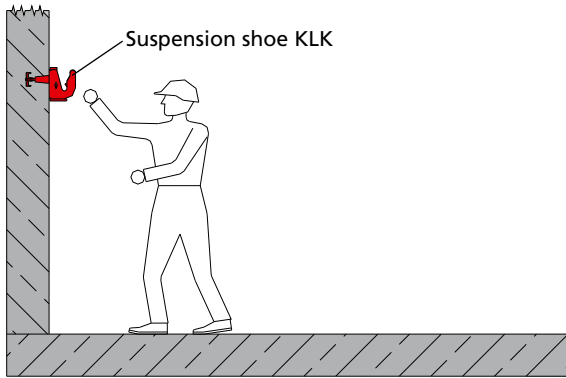

Fig. 17.1
1. Attach the suspension shoe KLK to the climbing cone by using the suspension screw M24. Secure the shoe with the integrated safety pin against unhooking (see p. KLK-16 -17 and Fig. 17.1).